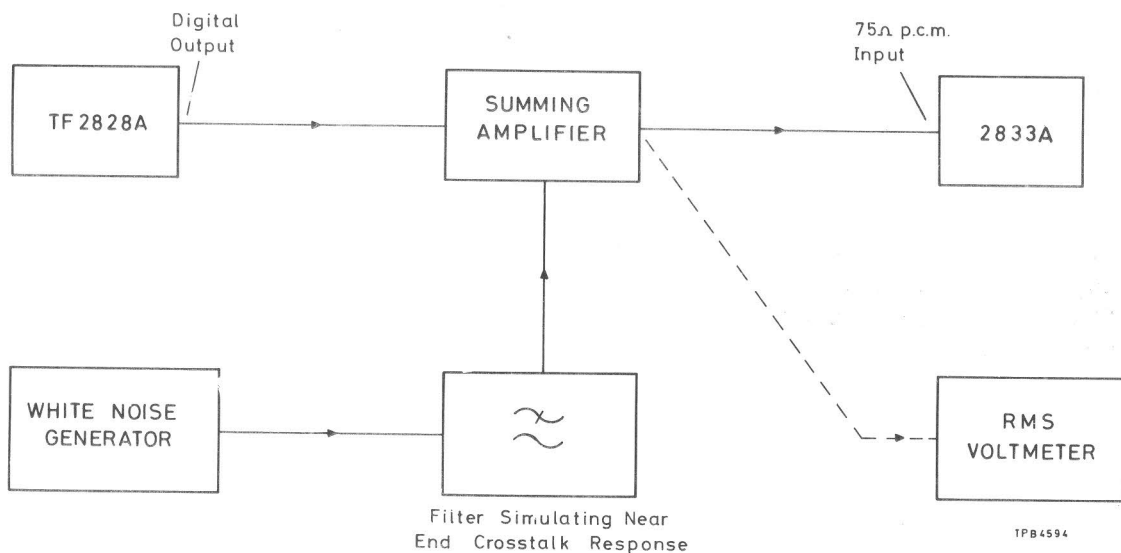

Fig. 9 Measuring noise immunity at 2.048 Mbit/s
(1) Connect the test equipment as shown in Fig. 9.